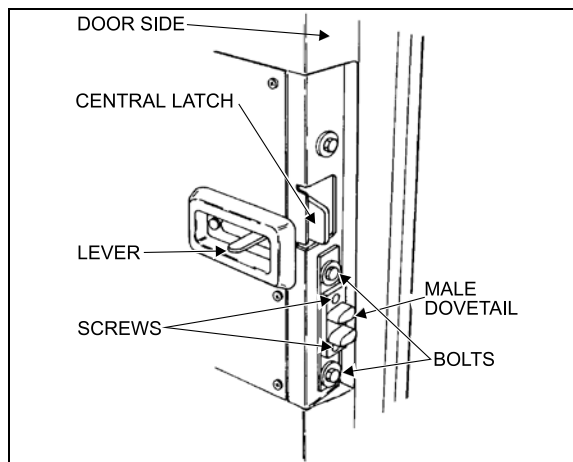

FIGURE 19: DOOR LATCH (COACH)
5. To adjust the male dovetail on L.H. side of the door, remove the two screws and loosen the two bolts. Slide the male dovetail toward the interior and loosely tighten the two bolts. Close the door slowly but firmly, then slowly open it and tighten the two bolts. Attach dovetail to the door with screws. See Figure 19.
| Latches Upper door catch Door cylinder rod end with bearing grease fitting (Figure 19) | Low temperature grease | Every six months |